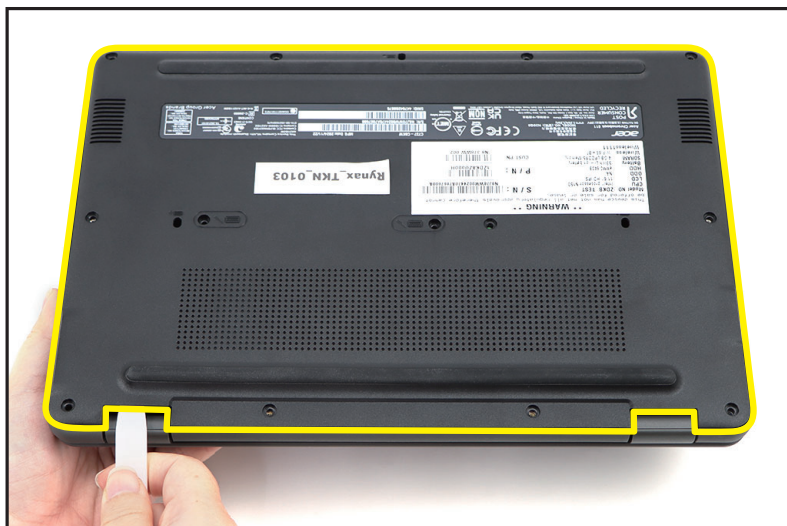

Figure 3-4. Base Cover Removal
2. Carefully pry up the base cover starting from the hinges slots to release the upper side latches. Then continue releasing the remaining latches on the left, right, and bottom sides (Figure 3-4).